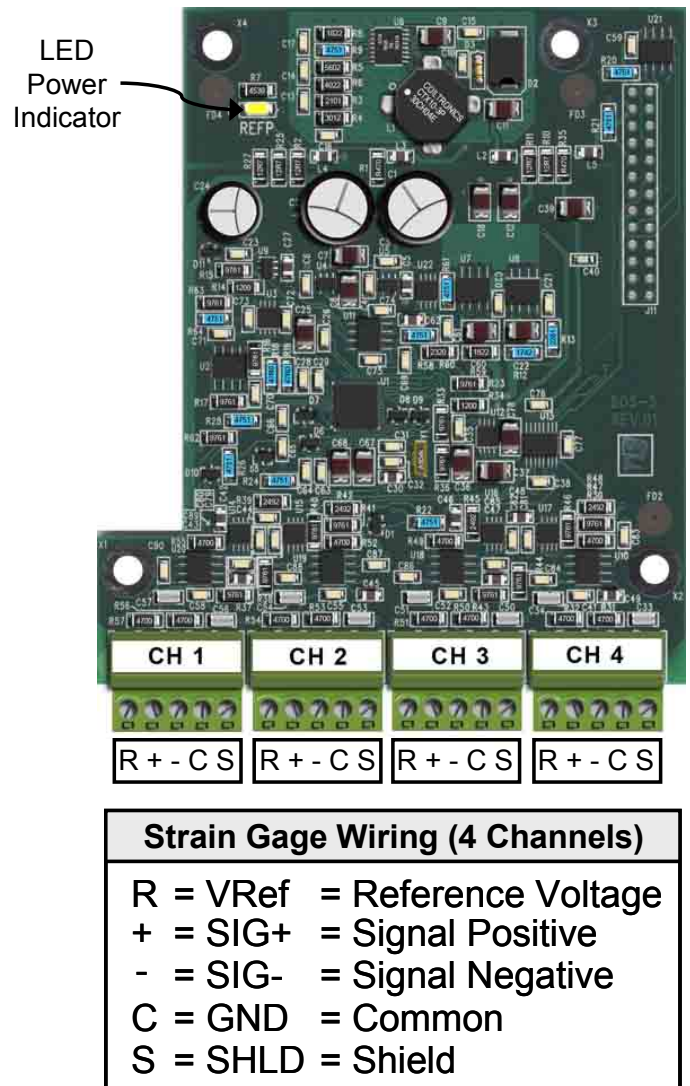
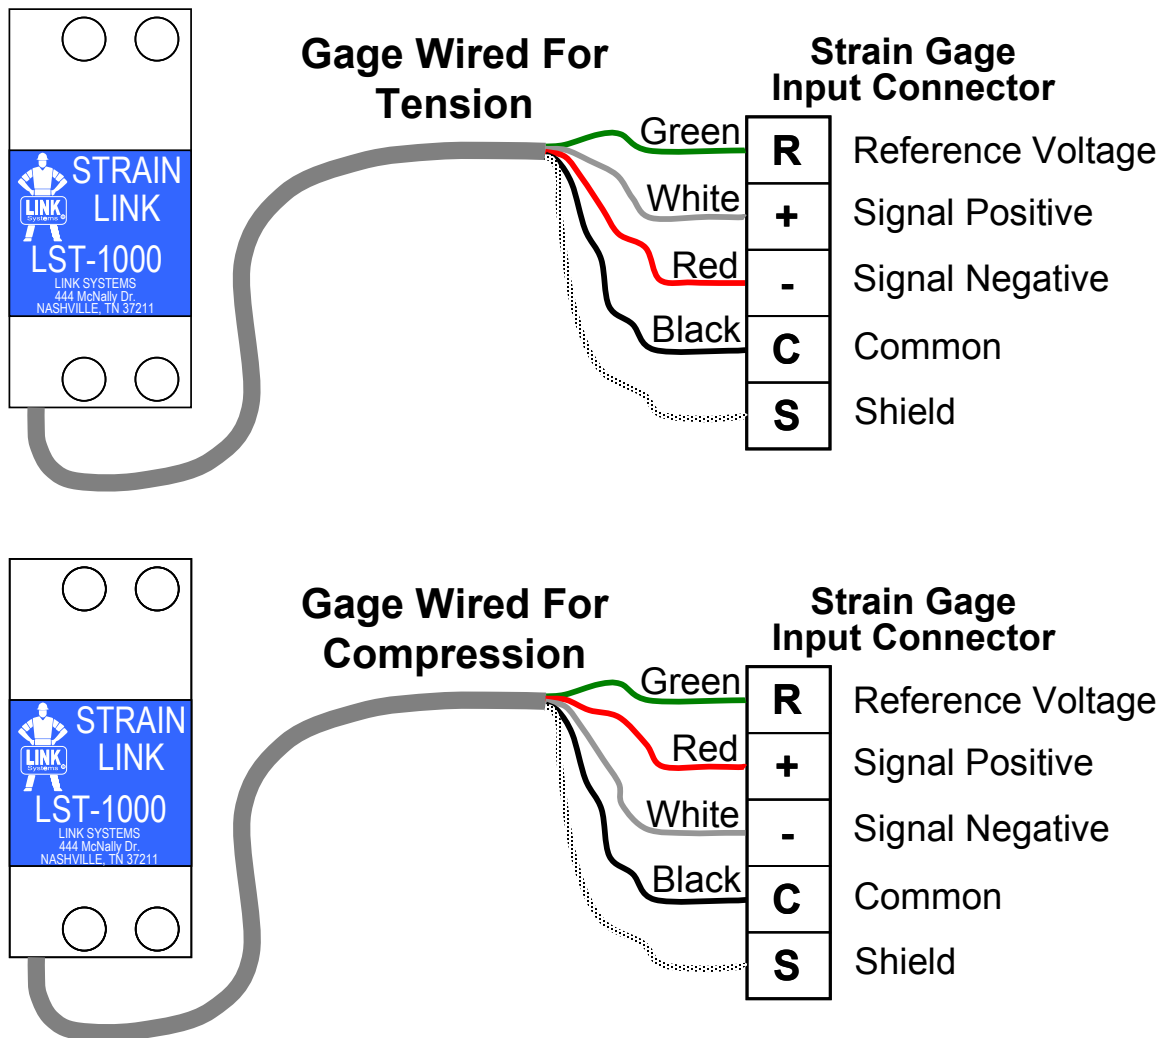

Figure 18: Tonnage Monitor Board
Figure 27: Strain Gage Wiring
The tonnage monitor board is labeled for the connectors that provide for field connections as shown in Figure 18. The CH 1, CH 2, CH 3, and CH 4 connectors are strain gage inputs. There is also one amber LED indicator which indicates that an internal power supply is functioning. This indicator should always be lit as long as power is on. At a minimum, one or more strain gages must be connected for proper operation. See Figure 27 on page 39 for information on how to wire the strain gage to the channel connectors.
- 4) Wire the channel connectors as shown in Figure 27. Cover or tape the shield, to avoid accidental shorting to any other point.